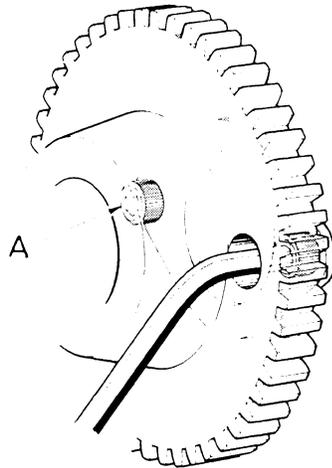

FIG. 12
**54. TO REMOVE CAMSHAFT** Fig. 12
- (h) Remove the screw (A) retaining the camshaft thrust plate. These are accessible through holes in the gearwheel. Withdraw the camshaft and gearwheel assembly from the gear end of the engine.